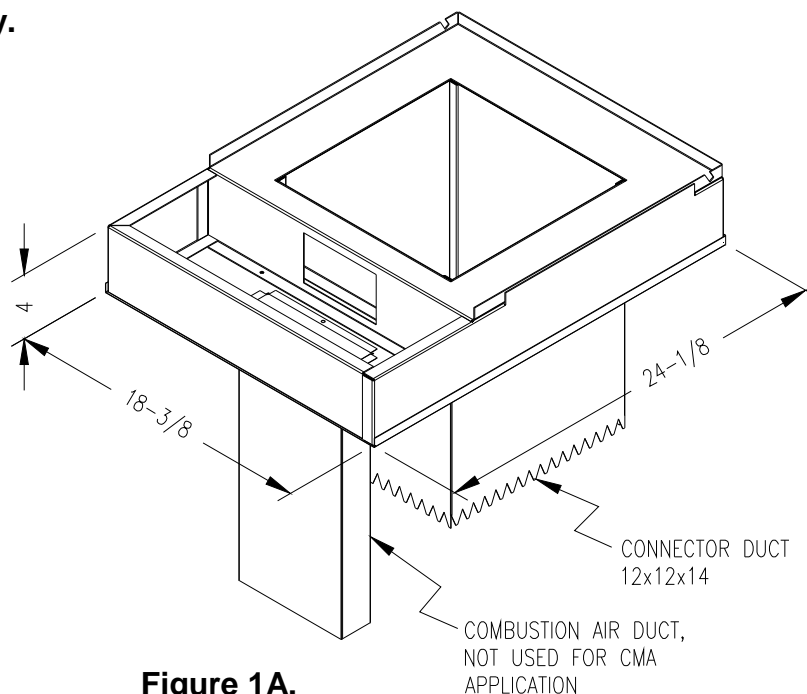
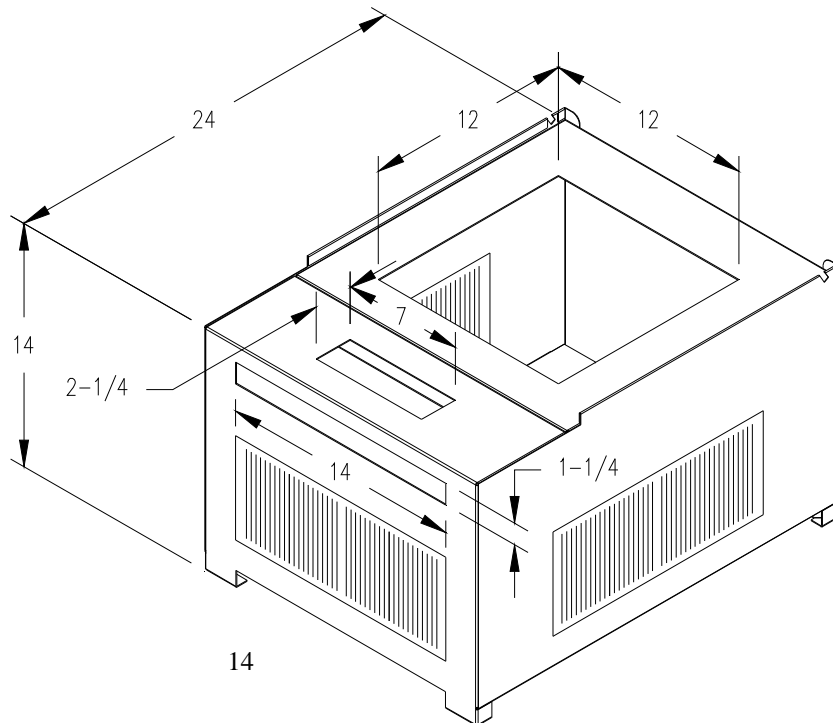

Figure 1A.
Figure 1C.
3. Model CMA3 furnace may be installed on a combustible floor when utilizing either the No. 70 counterflow floor base or CE111S / CE211T coil cabinet for below the floor duct systems, or the cottage base for floor level air distribution. See Figure 1A for description of Combustible Floor Base and Figure 1C for Cottage Base.
The 01COT BASE cottage base (Figure 1C) is required for a freestanding cottage base installation. The cottage base allows the two sides and rear to have an 8" x 12" register installed. **IMPORTANT: All joints and seams of supply ducts must be sealed with a sealing method suitable to the application conditions and temperatures (I.E. High temperature silicone and/or aluminum tape).** Refer to assembly and installation instructions included with cottage base for additional information.